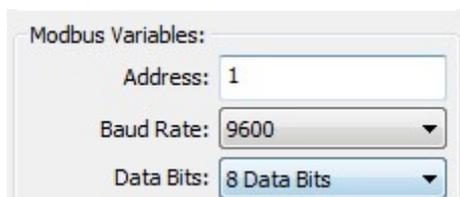

Figure 5.46 Modbus Selection of calibration values
1. Select "detailed Design"->"Modbus variable"->"calibrate" corresponding to the drop-down box, support: odd check, even check, and no check, as shown in Figure 5.46